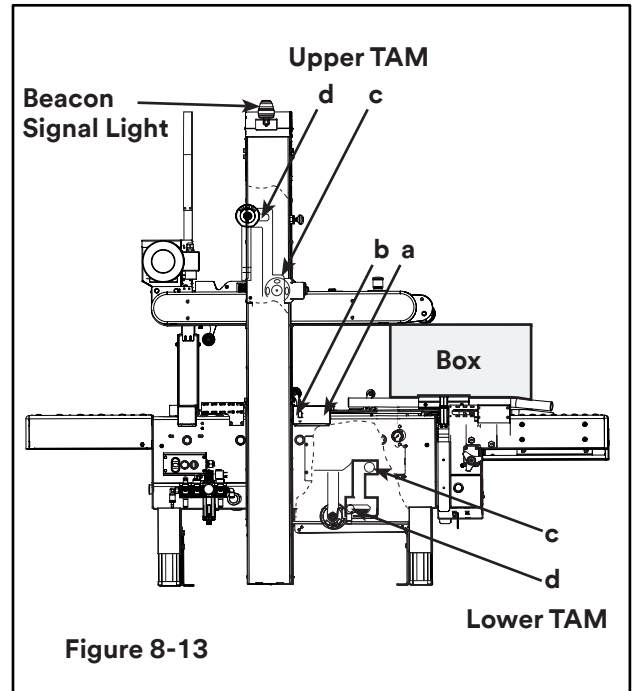

Figure 8-13
The Tape Application Monitor (TAM) will indicate the type of fault by a predesignated light beacon color (**See Chart**). The machine will stop operating when a fault is indicated (except with a low tape signal). TAM operations are controlled by information received in the Programmable Logic Control (PLC) from Five (4) sensors (**Figure 8-13**):
The Box Present Sensor/Lower Cut-Off Retract (a) signals the presence of a box and the start of taping cycle. This sensor as well as the Upper Cut-Off Retract Sensor (b) signal the end of the tape dispensing operation for each taping head - see Sensor Positions (**Figure 8-13 and 8-14**). When tape is dispensed to the point where the roll no longer blocks the sensor, an indicator light is illuminated on the Beacon Signal Light (**Figure 8-13**).
Tape Dispensing Sensor (Figures 8-13, 8-14, and 8-15):